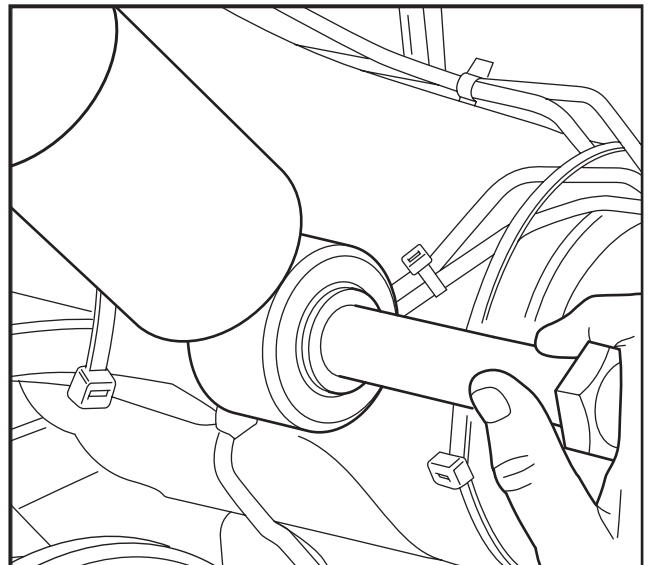

Fig 4.14
2. Withdraw the lower mounting bolt (Fig 4.14).